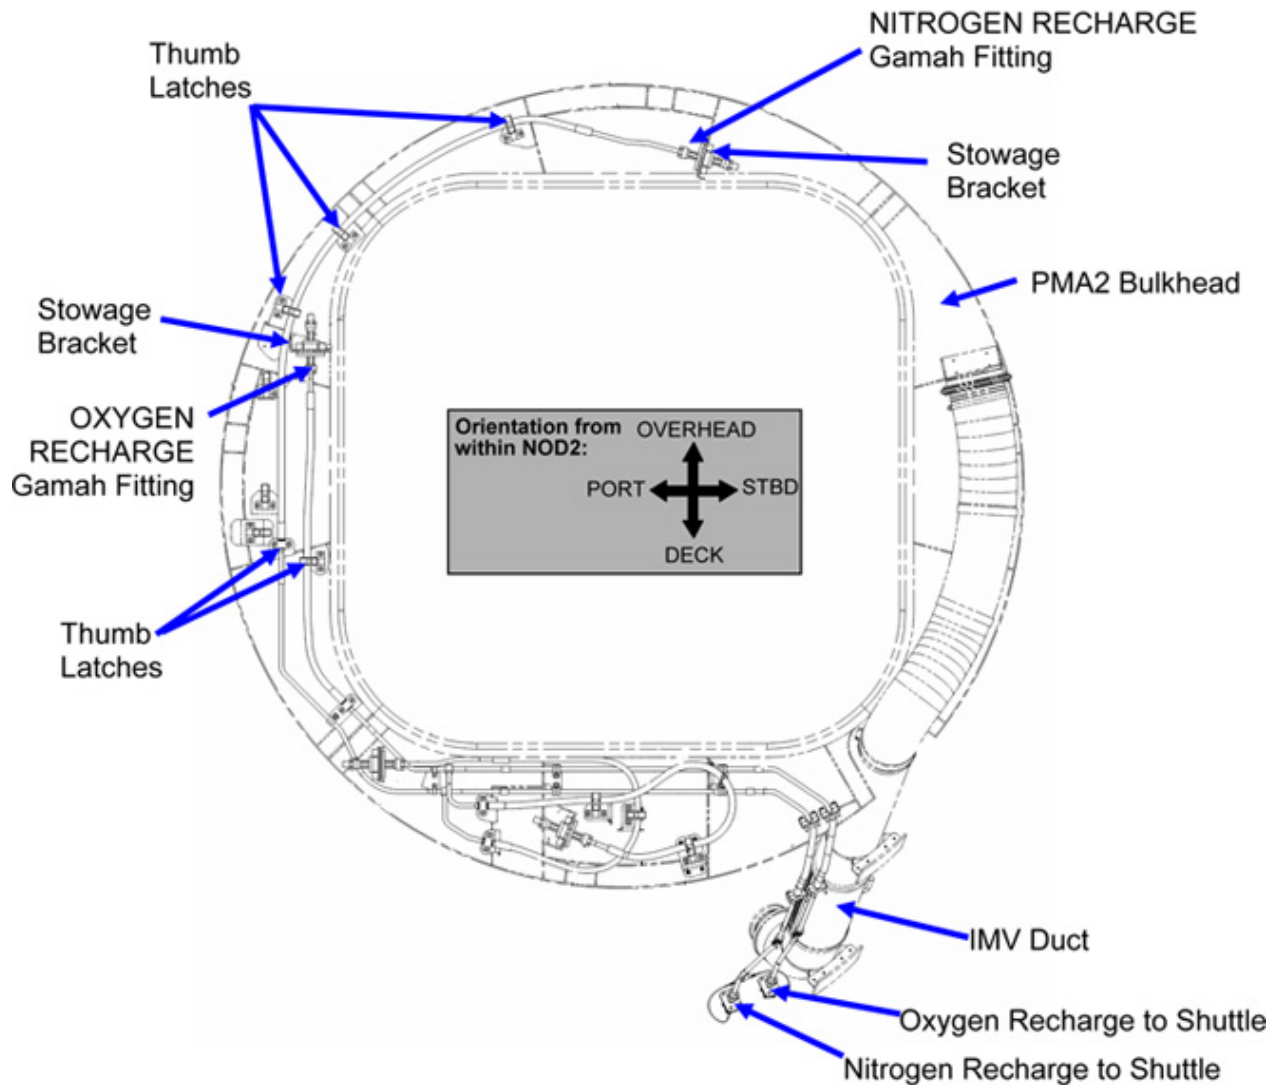

Figure 1. PMA2 Aft Bulkhead showing path of Oxygen and Nitrogen Recharge lines. View Looking Fwd in to PMA2 from NOD2.
- 3.1 Release NITROGEN RECHARGE line from PMA2 bulkhead as needed to reach NOD2 bulkhead (thumb latches). Close thumb latches. Refer to Figure 1.
- 3.2 During connection of oxygen and nitrogen lines: Inspect both sides of each gamah fitting for damage, debris before mating. Report damage, debris to **MCC-H**. Inspect male threads for absence of Braycote before mating. If required, apply one drop of Braycote to male threads. Spread around threads using gloved hand. Refer to Figures 1, 2 and Table 1.
- 3.4 Loosen OXYGEN RECHARGE, NITROGEN RECHARGE lines from PMA2 stowage brackets (Ratchet, 3/8" Drive; 7/8" Crowfoot, 3/8" Drive; 5/8" Combination Wrench). Refer to Figure 1.